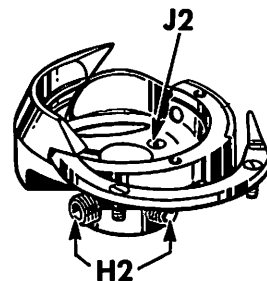
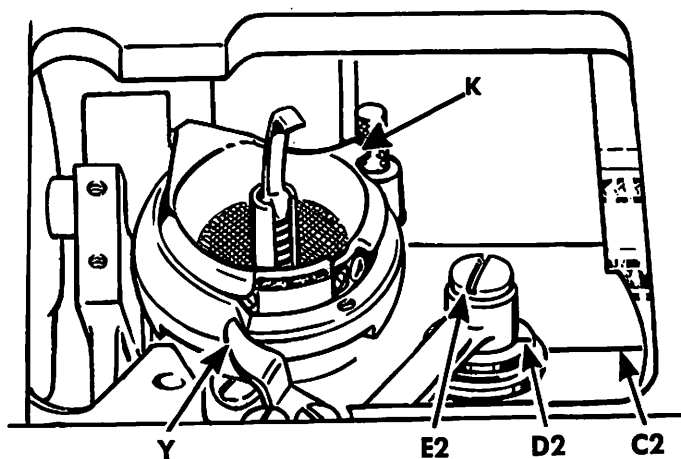

Fig. 30. To Remove Sewing Hook from Machine
Fig. 31. Adjusting Bobbin Case Opener
Remove presser foot, throat plate and feed dog, then loosen two socket screws in hub of hook H2, Fig. 30 and lift hook off end of shaft. To remove hook shaft, first remove screws in ball bearing re-
**CAUTION:** The hook is equipped with a screw in the hub for adjusting the vertical position of the hook relative to the throat plate seat. This position is set to a gauge at the factory. When replacing or installing a new hook, care must be taken to see that the bobbin case stop finger K, Fig. 31 fits correctly in the throat plate. If it is too high, it will interfere with the free passage of thread. If it is too low, it may slip out and cause damage to hook and bobbin case when machine is in operation. To make the adjustment, remove cloth washer in bottom of bobbin case, loosen socket screws H2, Fig. 30, page 9 in hook hub, then turn hook until adjusting screw appears beneath one of the holes in the bottom of bobbin case. Hold hook down against its seat and turn adjusting screw with screwdriver until the proper up and down position is attained. Tighten socket screws H2, Fig. 30 in hub of hook.
#### TO ADJUST BOBBIN CASE OPENER (see Fig. 31)
#### TO TIME BOBBIN CASE OPENER (see Figs. 31 and 32)